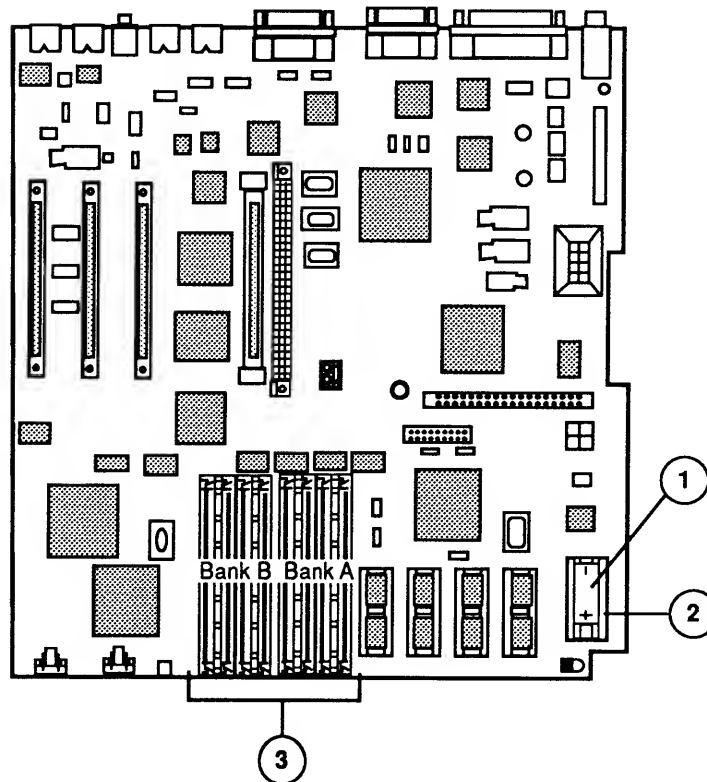

Figure 6 Macintosh IIci – Logic Board with Parity
□ MACINTOSH IIci – LOGIC BOARD WITH PARITY (Figure 6)